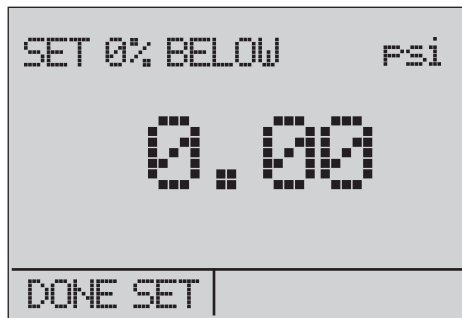

Figure 33. % ERROR Screen
- Use the arrow keys to set lower limit of the measurement range, and select **DONE SET** when finished. The "%-ERROR" mode will be ready to use. See Figure 33.